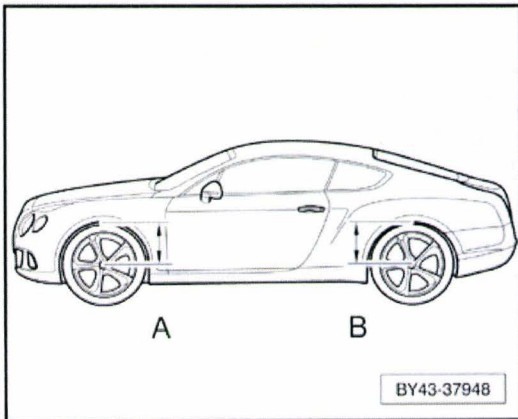

Figure11
- Following the on screen prompts will take you through the ride height calibration process Continue to follow the on-screen prompts entering the height of each corner of the car as measured from the centre of the wheel directly up to the centre of the wheel arch (see Figure 11)